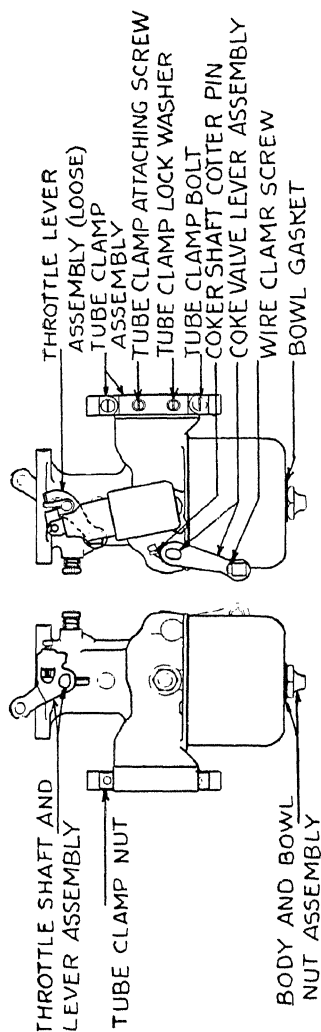

Fig. 137. External Construction and Adjustments of Chevrolet "Six" Carter Carburetor
**Model "RJHO8."** The International Chevrolet is equipped with a Model "RJHO8" multiple-jet plain-tube Carter carburetor of special design in which have been incorporated the improvements in the art of carburetion. Two views of this carburetor are shown in Fig. 137 with a list of the part names.
*Accelerating Pump.* The accelerating pump consists of an air chamber and fuel container which has been added to the accelerating well. The pump is actuated by the throttle lever, Fig. 137. When the throttle valve is closed, the gasoline is drawn into the pump cylinder through the ball-check housing assembly. The ball-check automatically closes when the throttle is opened, air is compressed in the plunger, and a fine spray of gasoline is discharged into the venturi through the pump jet. About two seconds is required to discharge the contents of the pump, supplying sufficient gas for accelerating under any and all conditions.